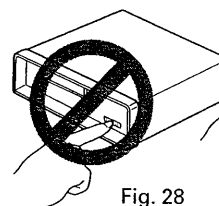
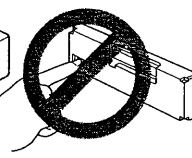

Fig. 28
Fig. 29
- Do not touch the contacts on the front panel or on the unit body, since this may result in poor electrical contact. If dirt or other foreign substances get on the contacts, wipe them with a clean, dry cloth. (Fig. 28) (Fig. 29)